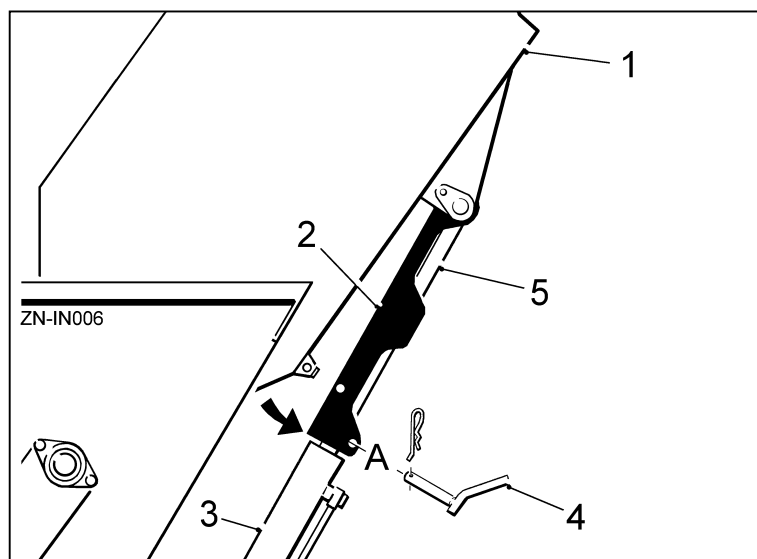

Fig 8
**WARNING:** Always lock the raised hopper with the stays (item 2, fig 8) before working underneath (see tipping hopper).
3. Fully raise the tipping hopper and fit the stays (item 2, fig 8).
The rear section of the tipping hopper (item 1, fig 8) is designed to gently feed the potatoes into the hopper belts. Sensors can be fitted inside the hopper to detect the level of seed above the hopper belt feed area. On automatic mode the sensors raise the rear section of the hopper automatically.
The stays (item 2, fig 8) are provided to lock the hydraulic rams (item 3, fig 8) in the open position when working under the hopper. The hopper should be empty when performing this operation.
***WARNING: Always lock the raised hopper with the stays (item 2, fig 8) before working underneath.***
2. Remove the pin (item 4, fig 8) and lower the stay (item 2, fig 8) down over the piston rod (item 5, fig 8).
3. Insert the pin (item 4, fig 8) into the hole (marked A) fitting it under the piston rod and secure it with the 'R' clip.
***Always unlock and reset the stays (item 2, fig 8) before lowering the hopper. Failure to observe this caution may cause serious damage to the machine.***